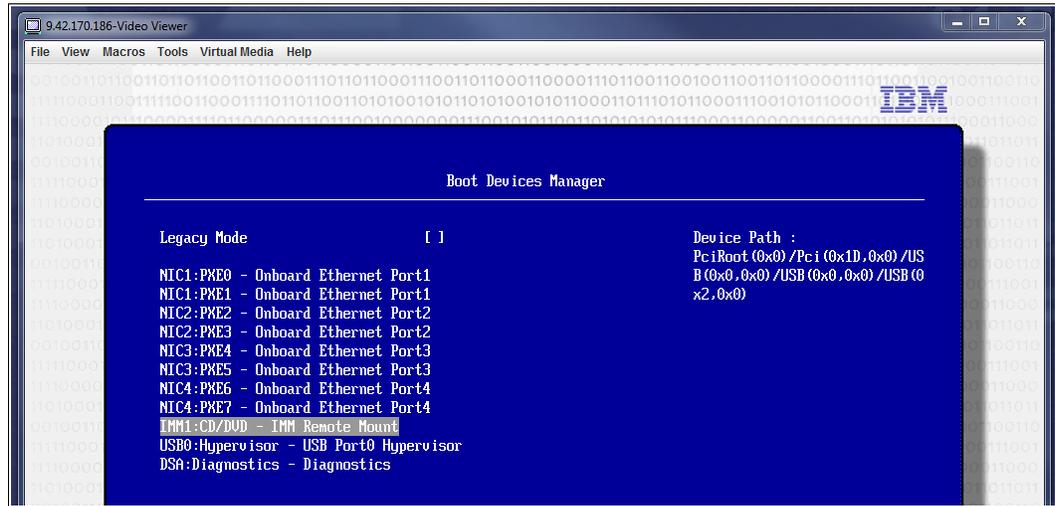

Figure 5-10 Mounted Virtual Media displayed in the UEFI Boot Devices Manager
- IMM Virtual Media-mounted files will show up under Boot Devices Manager within UEFI as bootable devices, as shown in Figure 5-10.